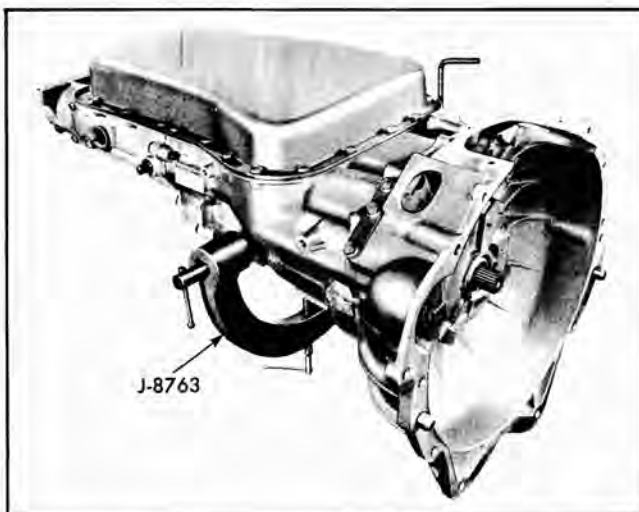

Fig. 39 Transmission in Holding Fixture
1. Attach transmission holding fixture J-8763 to transmission case (Fig. 39). Tighten handscrews moderately so case is not distorted making removal of case center support difficult.